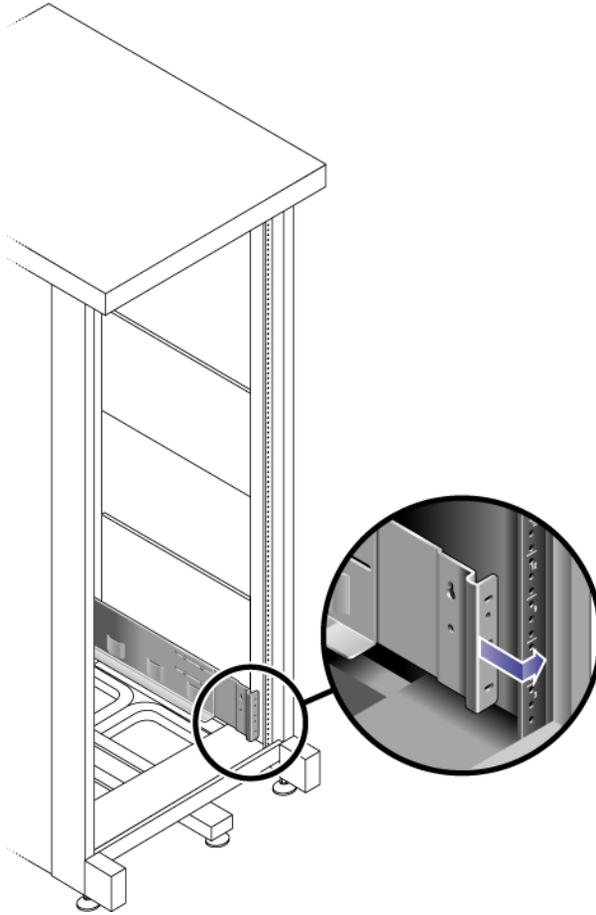

FIGURE 2-15 Adjusting the Length of the Rail at the Back of the Cabinet
- 5. At the back of the cabinet, adjust the length of the rail as needed to fit the cabinet, and position the rail flange over the face of the cabinet rail (FIGURE 2-15).**